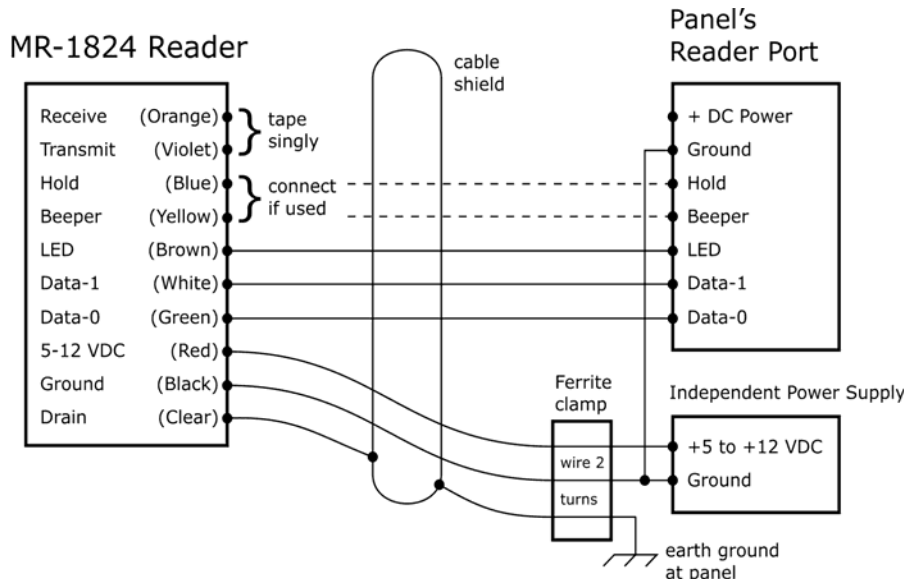

FIGURE 2. Wiring Diagram (Wiegand)
3. Connect the reader's Data-0, Data-1, power and ground wires as shown in Figure 2. **Do not connect** the *orange, yellow, blue, violet* and *brown* wires to anything. **Tape or cap** all unused wires singly.
3. Connect the reader's cable to the controller panel as shown in Figure 2 on page 2.